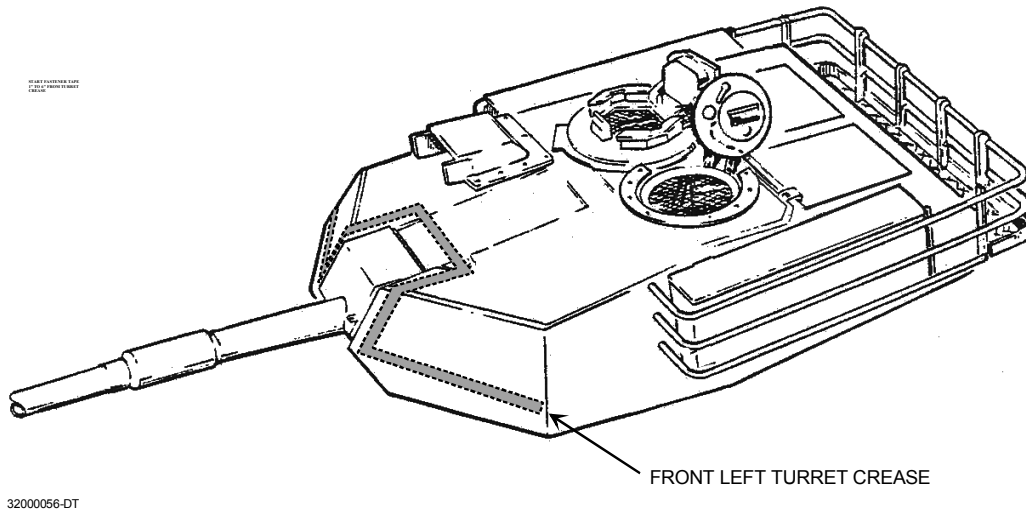

Figure 2-17. M1A1/M1A2 Fastener Tape - Front-Left Turret Crease.
- b. The belt labeled Right/Front starts approximately one (1) to six (6) inches from the left of the front left turret crease, and ends with the belt connector on the right rear corner of the turret. At the front of the turret, the belt will form a “collar” around the mantle. (See Figures 2-17 and 2-18.)
- Beginning at the front left turret crease (Figure 2-17), apply fastener tape to match the outline.